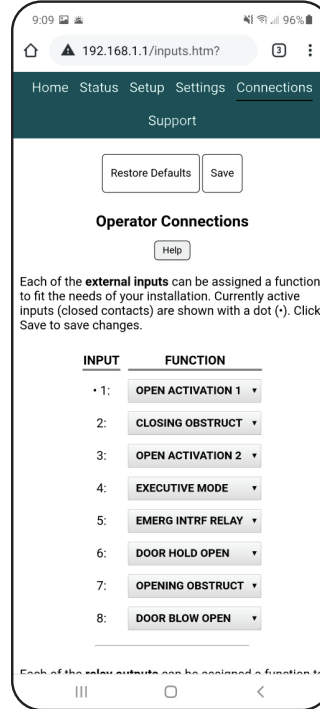
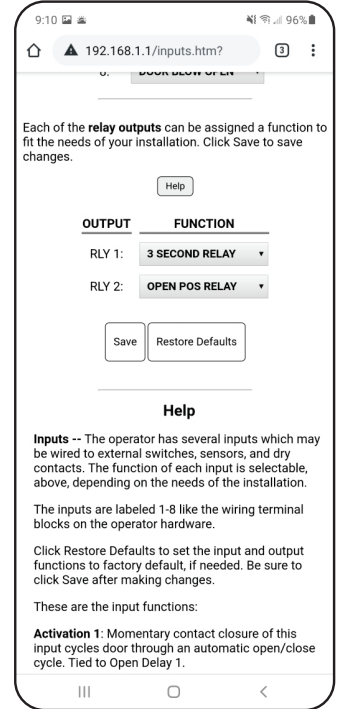

Figure 48
Figure 49
**To customize the inputs and outputs via the Wi-Fi application:** On the Connections page, select the input or output then scroll through drop-down menu to select the desired function for each. (Figure 48 and Figure 49) or the operator's control board.